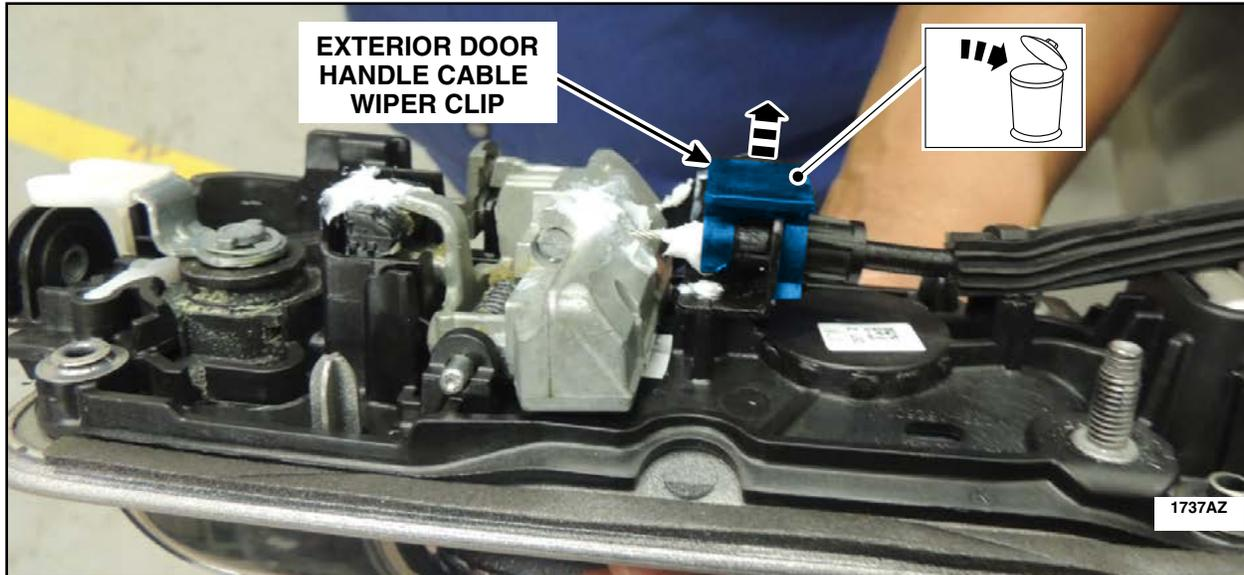

FIGURE 62
2. If a cable wiper clip is present on the exterior door handle cable end, remove and discard the cable wiper clip. See Figure 62.